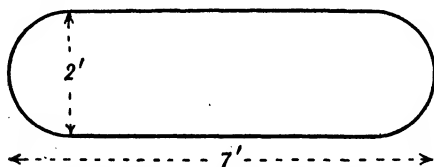

FIG. 38. PLAN OF CYLINDRICAL BOILER
3. The diagram (Fig. 38) shows a cylindrical boiler with hemispherical ends. Find its volume.